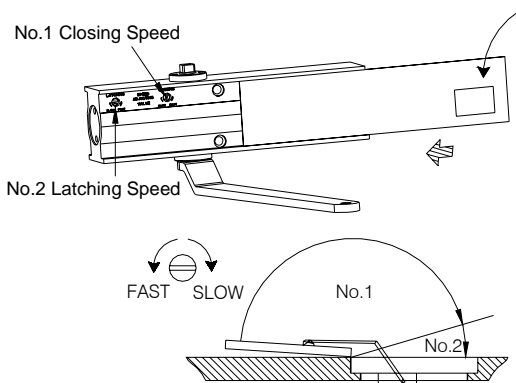

Fig. 6
7. Check for correct closing & latching speeds. Adjust if necessary. **(See Fig. 6)**
8. Stick easi-exit logo onto indent of slide plate and refit to door closer. **(See Fig.6)**